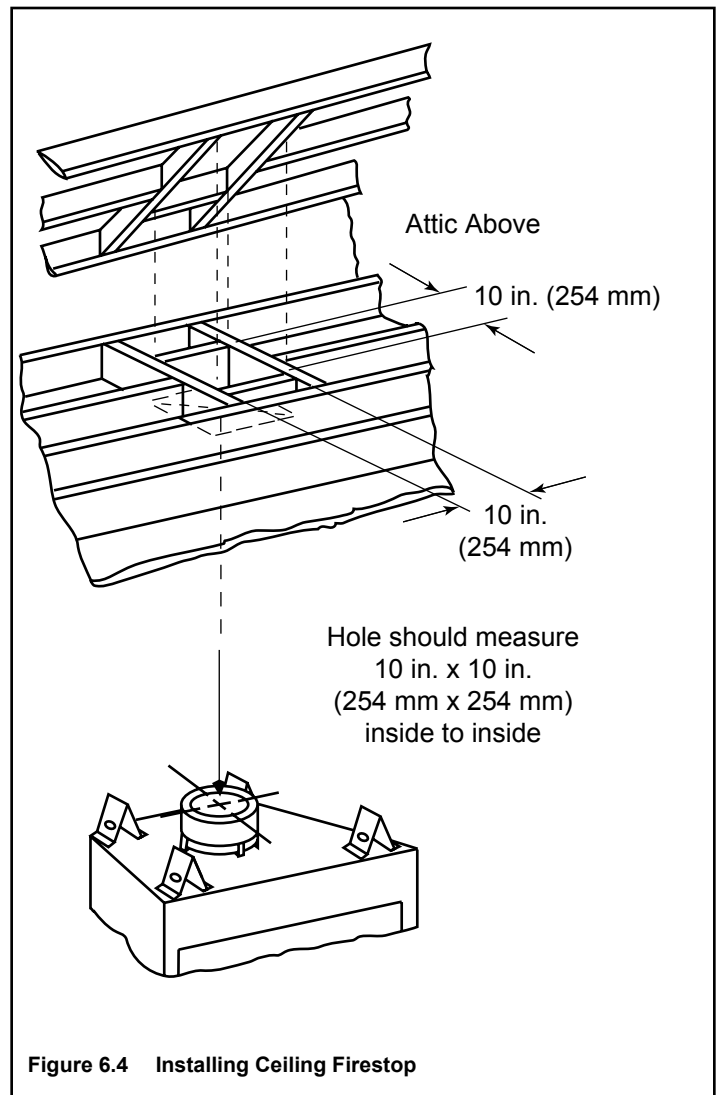

Figure 6.4 Installing Ceiling Firestop
- Frame an opening 10 in. by 10 in. whenever the vent system penetrates a ceiling/floor (see Figure 6.4).